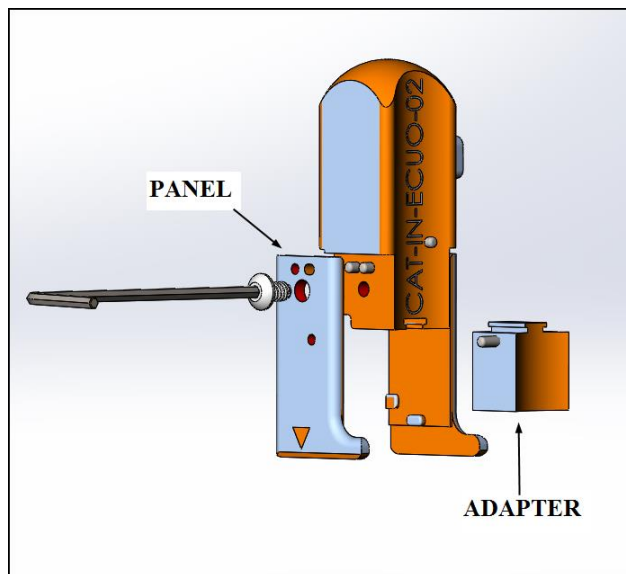

Figure 5
1. Remove the screw and side panel as shown in **Figure 5**.